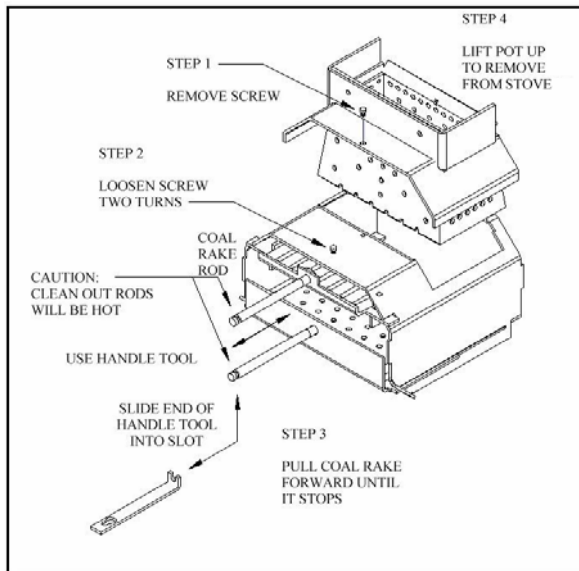
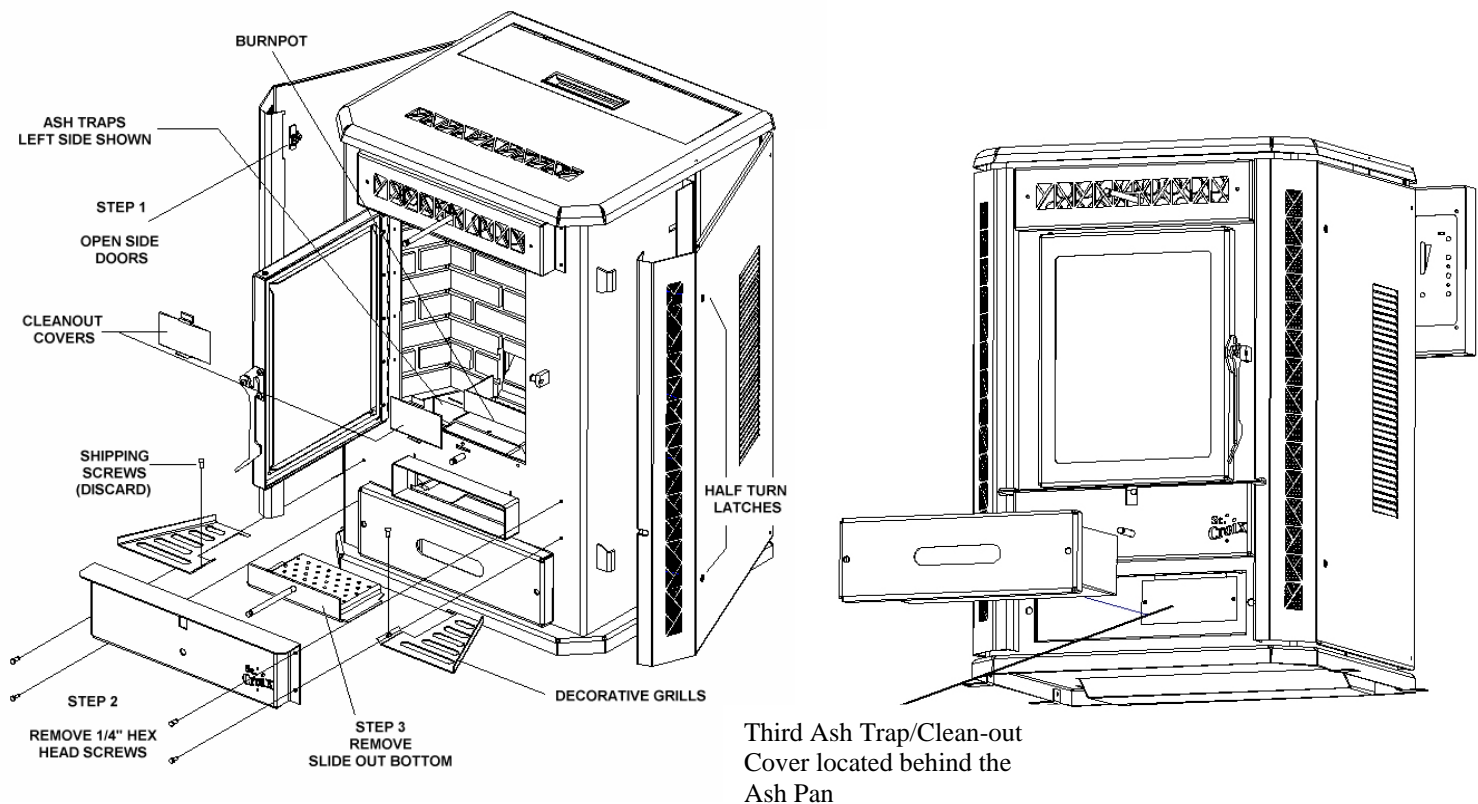

Figure 9
Figure 10
1. **The coal Rake.** The first step is to push the coal rake in and shave the burning coals and corn off the top of the clinker. Once this is done open the door and add a ¼ cup of pellets on top of the coals (*See figure 7 below*). To push in the Coal rake, use the Rod Handle tool shown in figure 9 on page 16.
3. **The slide out bottom.** (*See figure 8 on page 15*) Now you are ready to drop the clinker from the burn pot. Pull the bottom out in one quick motion and let the clinker drop into the ash pan. Quickly push the bottom in again. To pull out the slide bottom use the Rod Handle tool shown in figure 9 on page 16 (see point 2 at the top of page 16).
6. Cleaning the Heat exchange tubes. Now you can pull the tube scraper back and forth a couple of times to keep the tubes clean. If the Tube Scraper feels sticky and difficult to move, check for the presence of creosote on the tubes. If creosote is present a damper adjustment may be needed or the Stove has become plugged and needs a thorough cleaning. Call Dealer for assistance. To pull the tube scraper back and forth use the Rod Handle tool shown in Fig. 9 on page 16.
2. **Burnpot and Slide-Out Bottom.** Clean burn grate holes whenever needed. Remove the Burnpot and use a small metal object (Nail, Drill Bit, etc) to clean out plugged holes. (See Figure 9 & 10)
To remove the Burnpot from the stove, the Coal Rake must be pulled back so the pot will clear it. Open the Firebox door of the stove and you will see 2 Hex head screws. Follow steps 1 through 4 in figure 9 to remove the Burnpot from the stove. To remove the Slide-out Bottom, follow steps 1 through 3 in figure 10.
3. **Clean-Out Ports/Ash Traps.** The stove has 3 Exhaust Cleanout Ports located in the LEFT AND RIGHT lower corners of the firebox and a third Clean Out cover is located behind the ash pan. The Left Cleanout/Ash Trap Cover and the one behind the Ash Pan are shown in figure 10. Remove covers and clean with a vacuum regularly.
1. **Spring Shutdown.** After the last burn in the spring, cool the stove. Remove all corn from the hopper and the auger. Thoroughly clean the burn pot, burn pot box, ash pan and ash traps behind the ash pan. (To locate the ash traps see figure 10 on page 17)